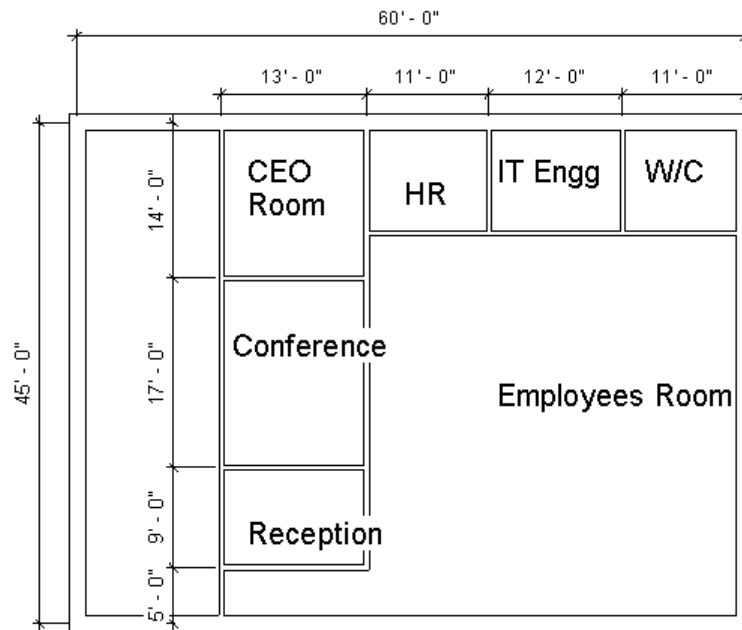

Figure 3-86 Selecting the interior wall type from the **Properties** palette
8. Similarly, sketch other walls, as shown in Figure 3-86.